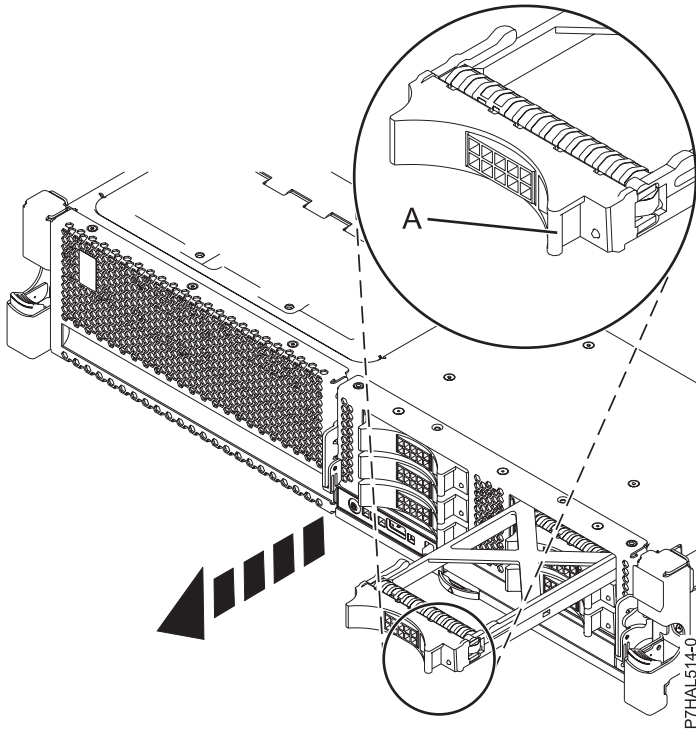

Figure 40. Removing a disk drive filler
3. Hold the filler handle (A) and pull out the disk-drive filler from the slot, as shown in Figure 40 on page 66.